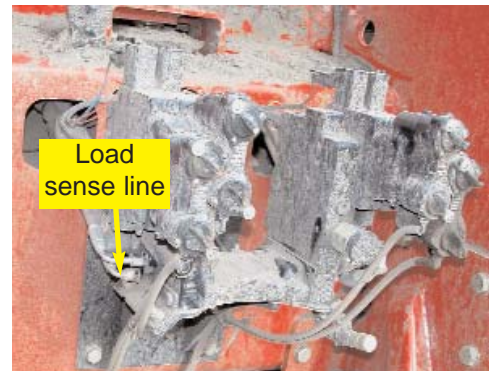

Figure 4b. Load sense line location.
- b. Locate the tractor load sense line on the back of the tractor. The load sense line is the lower left line on the valve stack. (Figure 4b.)